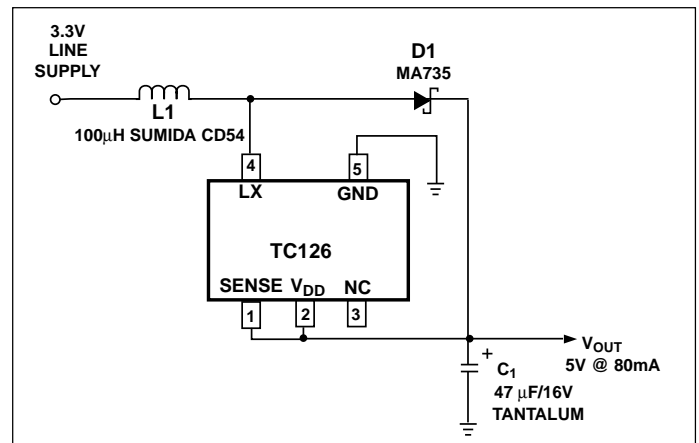

Figure 2. Typical TC126 Circuit
3.  $V_{\text{DD}}$  input tied to SENSE input for TC126, as shown in Figure 2.
The TC126 (Figure 2) is recommended for all applications not requiring shutdown mode. It has separate VDD and SENSE inputs, allowing it to be powered from any source of 2.2V to 10V in the system. The VDD input of the TC126 may be connected to the VIN, VOUT, or an external DC voltage. Lower values of VDD result in lower supply current, but lower efficiency due to higher switch ON resistance. Higher VDD values increase supply current, but drive the internal switching transistor harder (lowering RDS(ON)), thereby increasing efficiency.